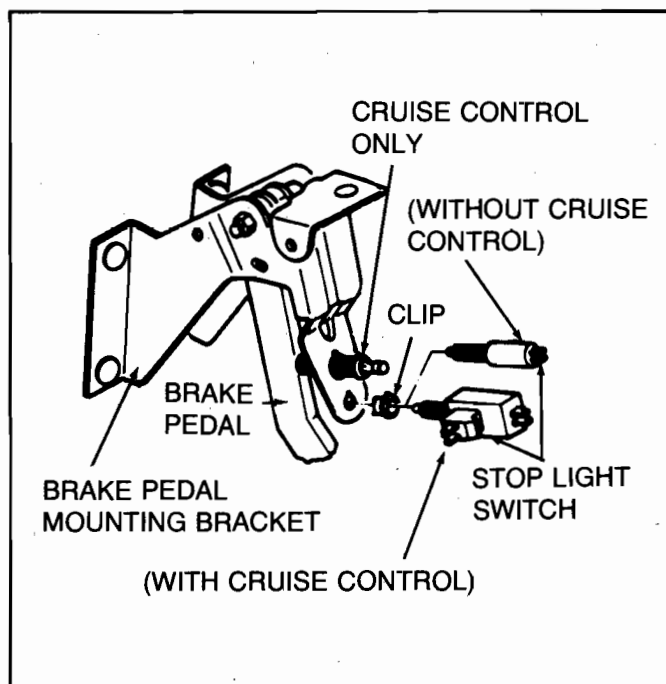

Figure 6-8 — Brake Pedal/Stoplight Switch Assembly
NOTE: Proper adjustment of the stoplight switch allows .06 inch to .36 inch free pedal travel and will turn on the stoplight switch after approximately .40 inch travel. (See Figure 6-8.)
3. Check the 31-inch rod that runs down the front of the chassis and connects the brake pedal to the Hydro-Boost for proper adjustment. (See Figure 6-8.) The rod can be adjusted (longer or shorter) using the screw adjustment located at the bottom of the rod. Block the wheels and hold the inside pedal in the "full-up" position. Check that there is free entry of the special bolt through the relaxed pedal rod lever connecting the linkage into the Hydro-Boost. Turn the adjustment screw to lengthen or shorten the rod as necessary.